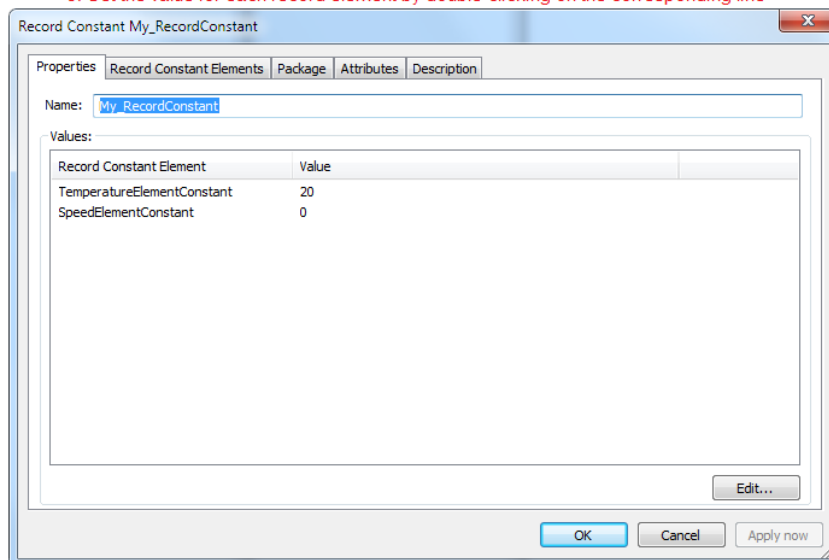
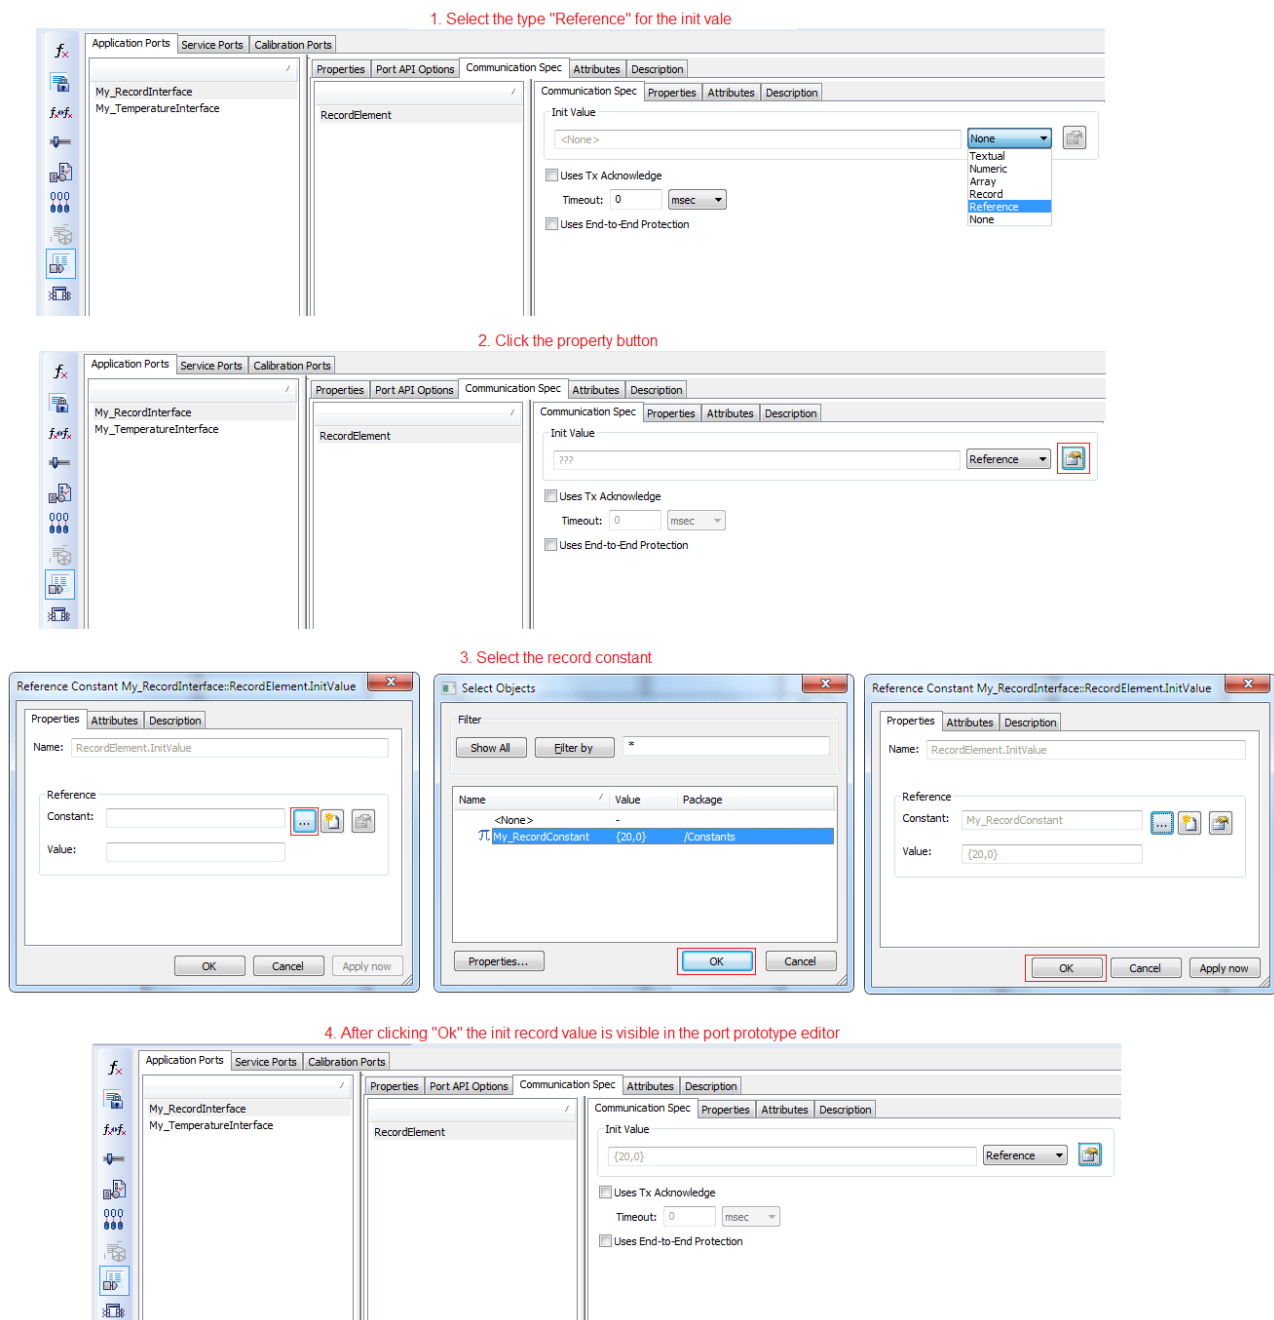

Figure 4-26 Record constant creation
Figure 4-27 Referencing a record constant as init value
- > With a constant: a constant is created (see Figure 4-26) and this constant is referenced as init value (see Figure 4-27).